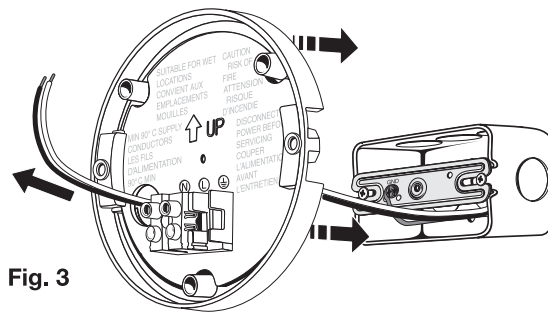
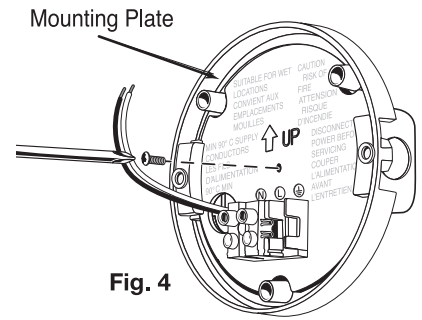

Fig. 3
Fig. 4
2. Feed the ends of the supply wires through the large hole in the mounting plate (ensure that there is enough wire to insert into the contact terminals) **(Fig. 3)**. Line up the center hole (located below the "Arrow" and "UP" molded into the mounting plate) on the mounting bracket. Insert the remaining quick connect screw into the center hole and tighten until the mounting plate is securely attached to the junction box **(Fig. 4)**.